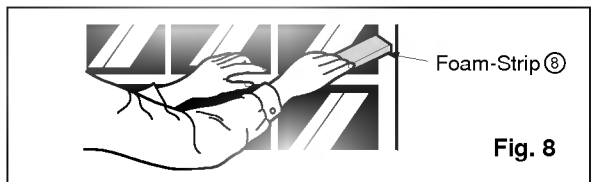

Fig. 8
11. Cut the foam-strip ✕ to the proper length and insert between the upper window sash and the lower window sash. (See Fig. 8)